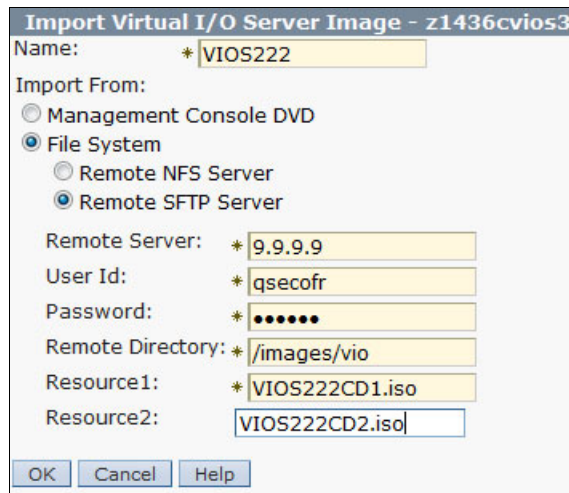

Figure 3-4 Importing the VIOS images
- In the Import Virtual I/O Server Image window (see Figure 3-4), enter all of the necessary information and click **OK**.